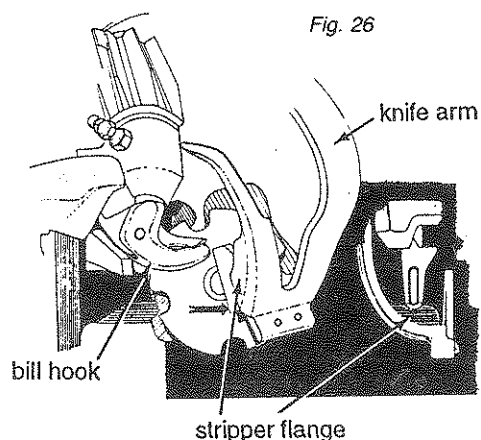

Fig. 26
1. The stripper flange on the knife arm should just touch the knotter bill hook with light pressure as the stripper flange pushes the knot past the end of the knotter bill hook, see Fig. 26. Adjustment is made by bending the knife arm.